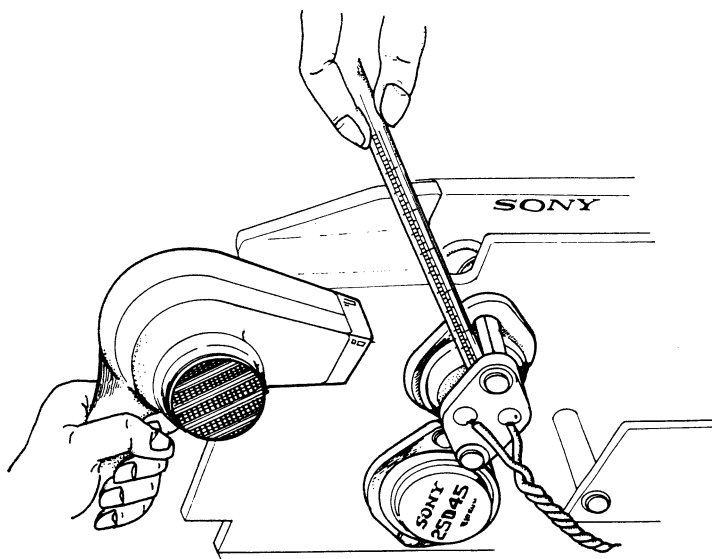

Fig. 2-5.
Step 3: Insert a thermometer between power transistor and thermistor then heat the thermistor and transistor gradually by heat blower, as shown in Fig. 2-5. Conventional hair dryer (blower) is available.
(1) In case the output goes off at below 139°F